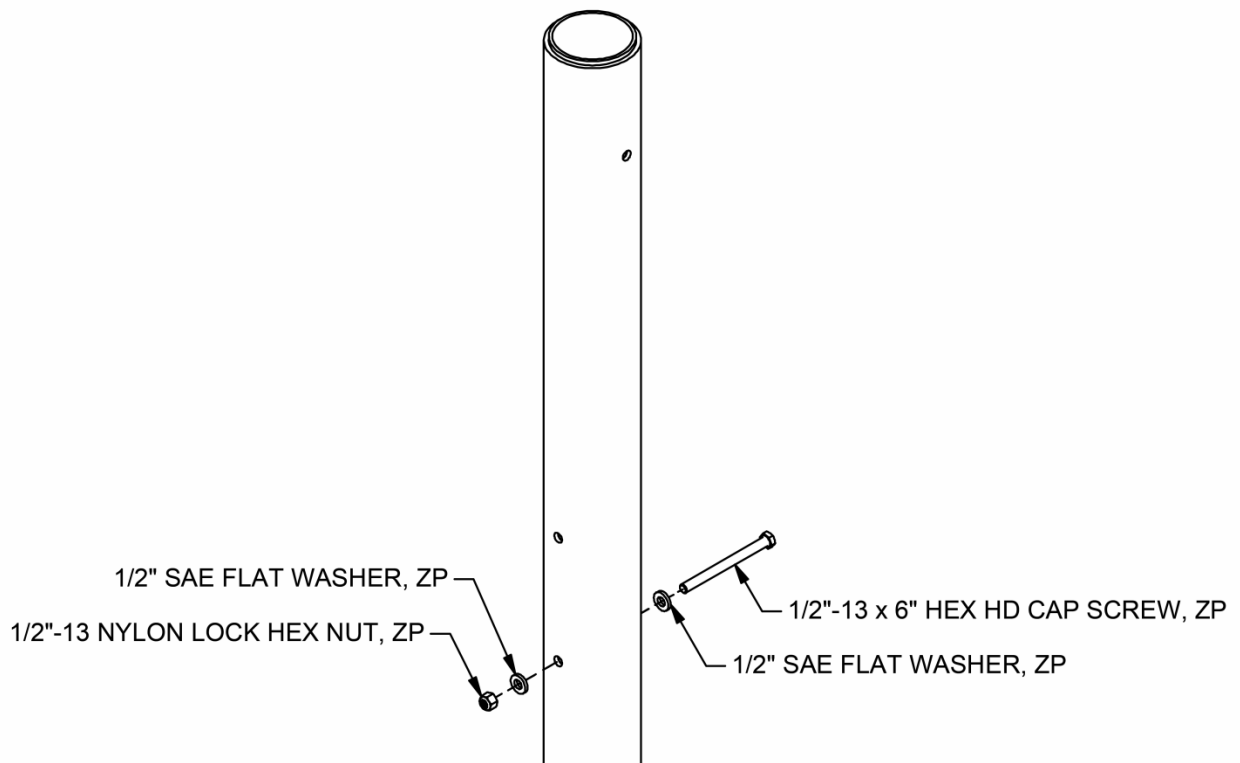

FIGURE: 9
1. Install the "safety stop bolt" hardware into the third hole from the top (see figure 9). This will allow the top pole to rest inside the lower foul pole during assembly.